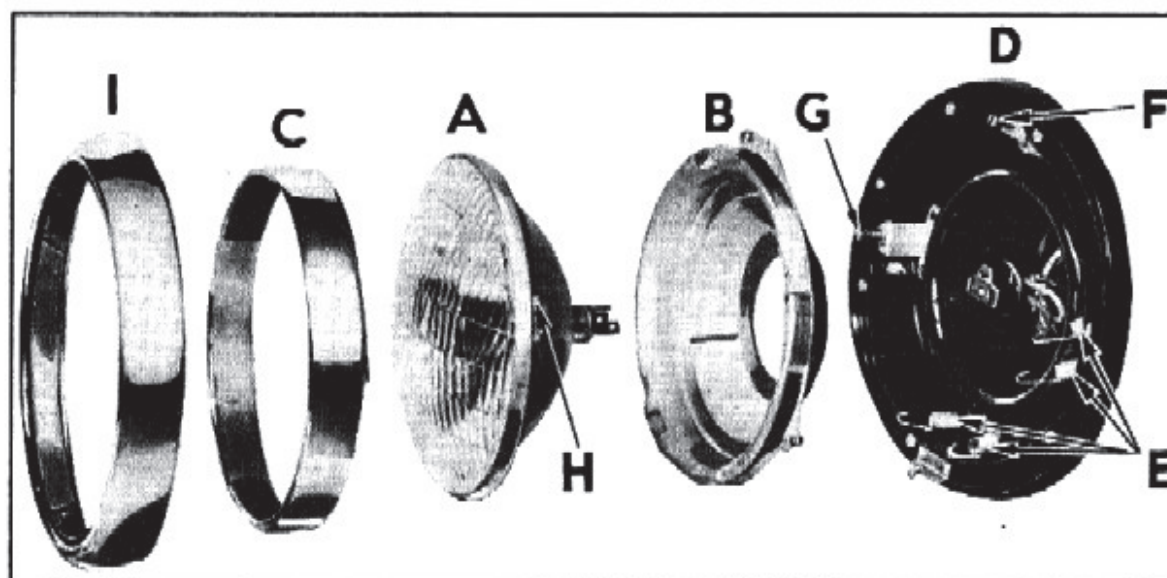

Fig. 57—Headlamp Parts
**Description.** All Chevrolet trucks are equipped with "Sealed Beam" headlight units in which the light source, the reflector, lens and gasket are all assembled in a securely sealed unit. Figure 57 shows the component parts of the light. With this